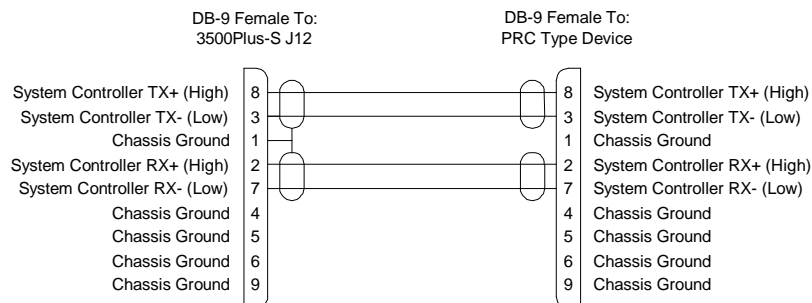

Figure 25: 3500Pro-S RS-422 Serial Cable
- COM 3/PRC is the communications interface to a PRC type routing switcher system and is connected to a routing switcher. If necessary, a cable up to 4000 feet in length may be fabricated in the field as shown in Figure 25.